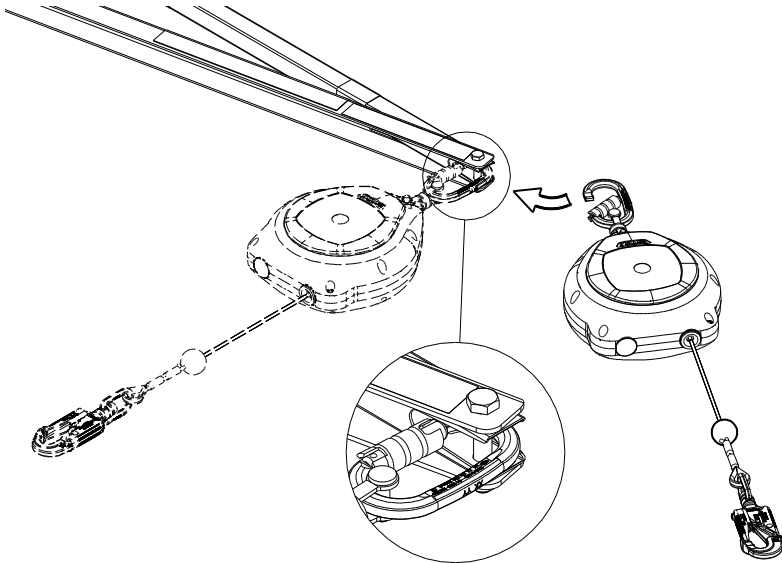

Figure 27. Attaching the 6,2m fall arrest block.
- 7.2 Connect the 6.2m Miller Falcon fall arrest block. Proceed according to Figure 27. Make sure that the carabiner is correctly attached to the SkyReach Anchor point and is secured.